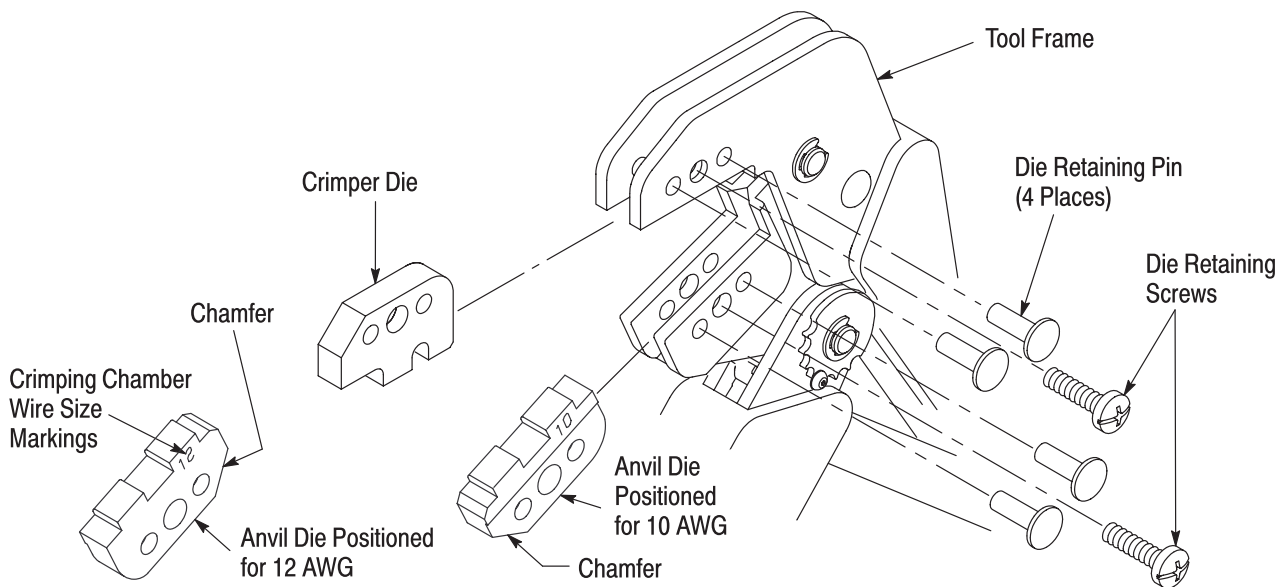

Figure 2
**3. INSTALLATION AND REMOVAL OF DIE ASSEMBLY** (Figure 2)
- Added callouts to Figure 2